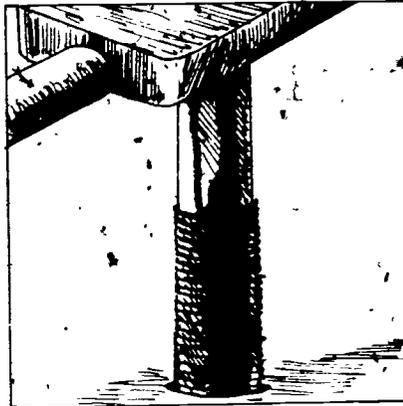

FIGURE 2
- C. Tap out drilled holes (Figure 2)